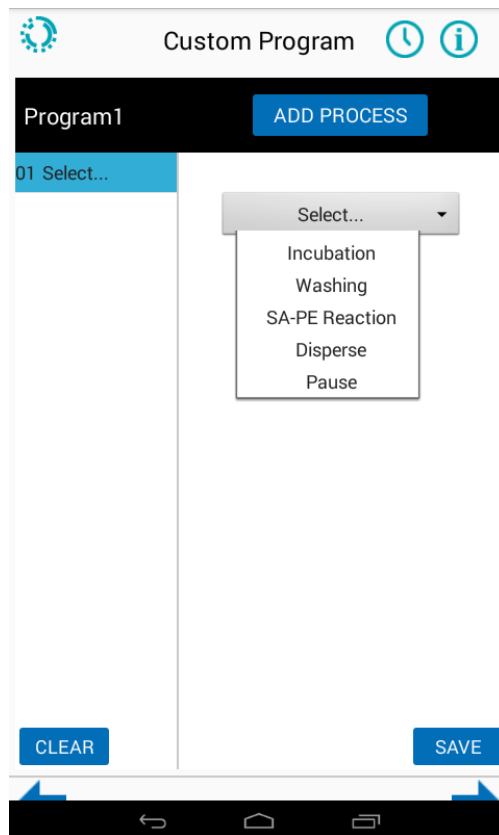

Fig. 21. Select desired procedures to set up a process
- Step 3. Fig. 21: Click **ADD PROCESS** and choose the desired procedure from the drop-down menu on the right side.